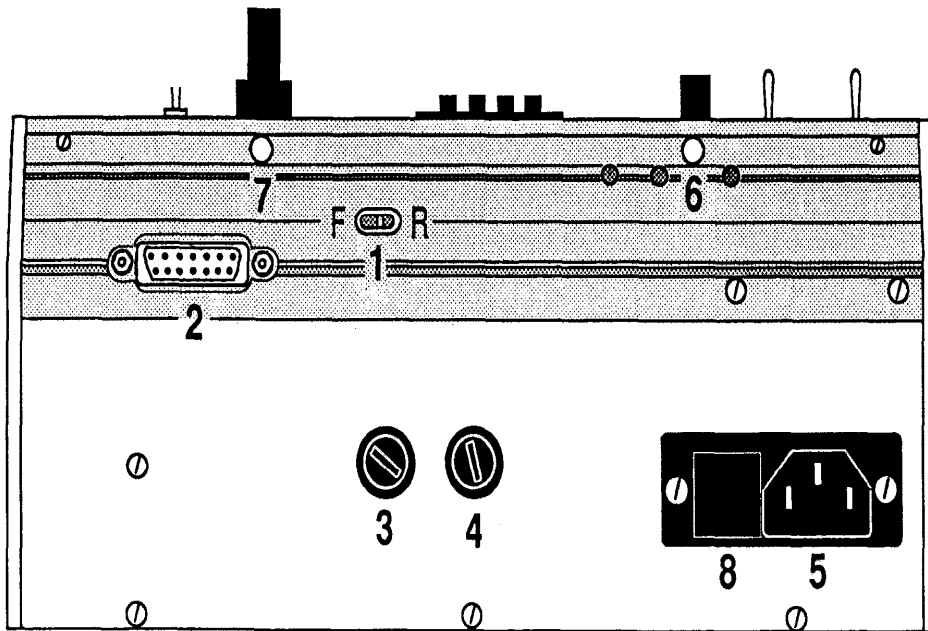

Figure 3. Rear
Flow	Knob for flow setting. Should be locked in the selected position with the lock screw located on the rear of the instrument, see figure 3.
The following are located on the rear of the CMA/100 Microinjection Pump, see figure 3.
- 0 There have been different model revisions of the CMA/100 Microinjection Pump, depending on the production date. The revision type of your pump can be found on the nameplate on the rear of the pump, see figure 3.**
- Loosen the Syringe knob lock screw (figure 3).
- Loosen the Flow knob lock screw (figure 3).